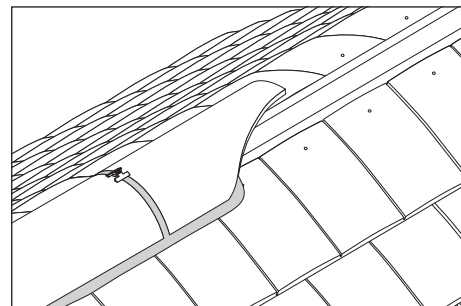

Fig. 25 – Typical bedded ridge
- Ensure that a minimum 75mm cover is provided by ridge tile over top course of tiles with any exposed mortar neatly pointed (Fig. 25).